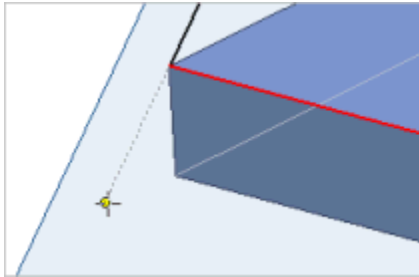

Figure 12: Alignment feedback without implied constraint.
3. Move the cursor down from the line as shown in Figure 12.